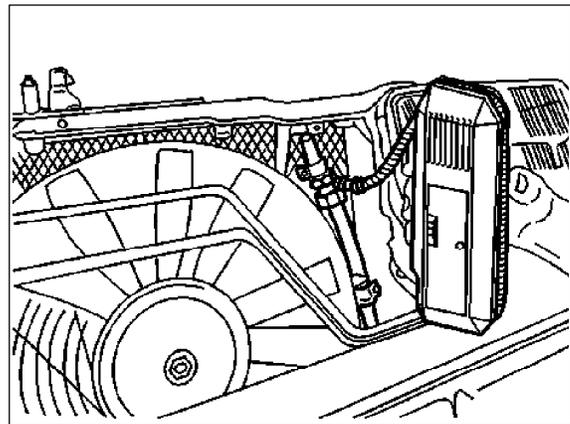

Figure 1
2. If A/C compressor binding is not present, fill A/C system with fresh/recycled refrigerant and perform refrigerant leak test. (Figure 1).